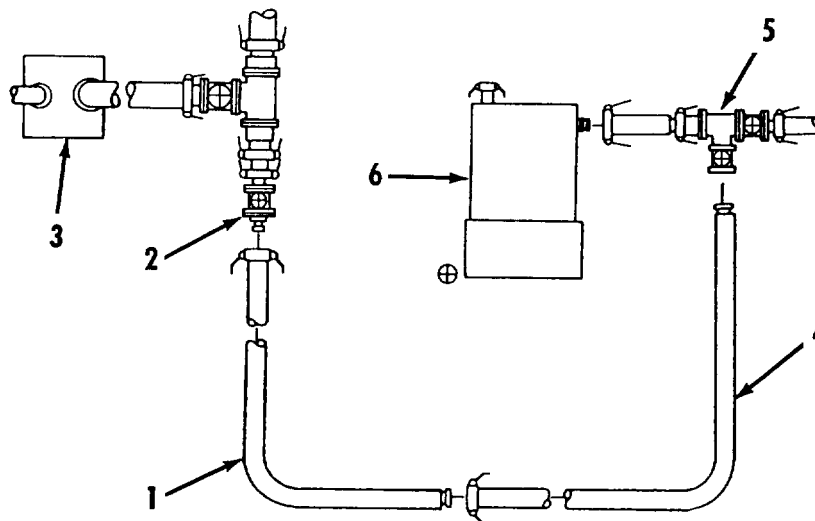

Figure 2-47. Fuel System - Secondary 600 GPM Pump Bypass Hose Removal.
- f. Fuel System - Secondary 600 GPM Pump Bypass Hose Removal. Refer to figure 2-47.